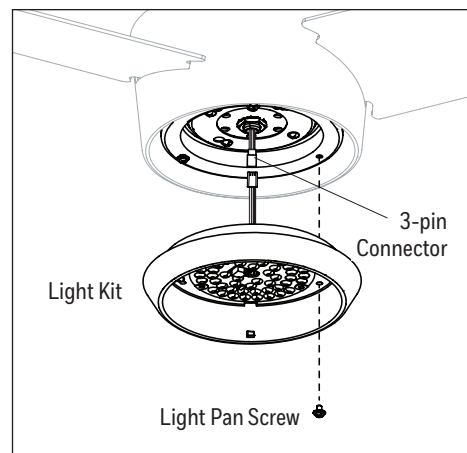

Figure 5.5
5. **Note:** To install the fan without the light kit, skip to 5.9. Remove one of the three light pan screws from the light pan and loosen the other two but do not remove. Connect the 3-pin connector from the light pan to the 3-pin connector from the light kit. Lift the two keyhole slots in the light kit over the two loosened light pan screws and turn in a clockwise direction. Then, use the previously removed light pan screw to secure the light kit to the light pan. Tighten all screws (Figure 5.5).